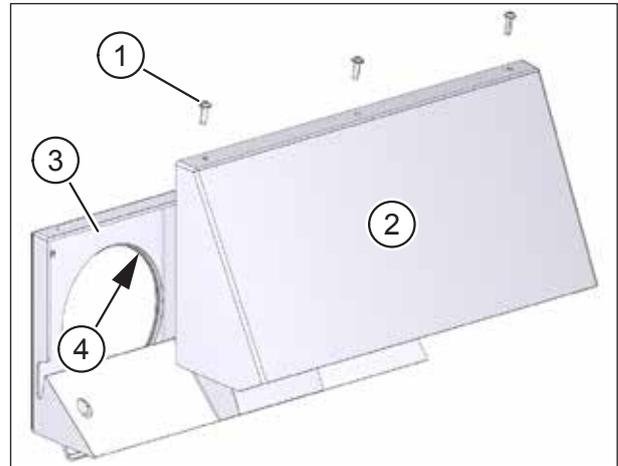

Fig. 9: Removing the cover
- ▶ Remove the three cross-head screws 3.5 x 16 (item 1 in Fig. 9) at the top of the outer wall terminal.
- ▶ Slide the cover (item 2 in Fig. 9) up roughly 10 mm. Lift the cover forward and away from the base plate (item 3 in Fig. 9).
- ▶ Fully coat both 4 mm wide sealing surfaces (item 4 in Fig. 9) on the inside with Vaseline.